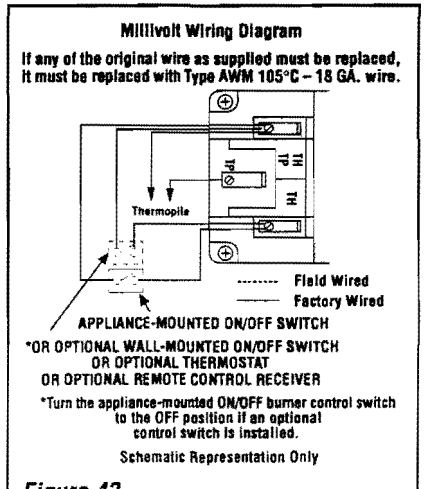

Figure 43
**A. Millivolt Wiring (See Figure 43) -**